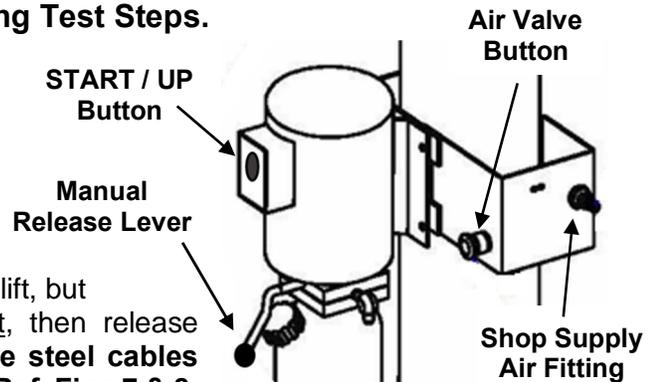

Fig. 30
- 1) **To Cycle Test Lift**, first turn on 220VAC electrical supply to Power unit and connect shop air to Quick Disconnect Air Fitting on Control Bracket. Ensure shop air supply to Air Fitting is between 90 - 115 PSI for proper Latch operation, Fig. 30.
- 3) **To Bleed Hydraulics**, cycle the lift \pm Up & Down fully 2 to 3 times to bleed (remove air) from the hydraulic system or until the lift lowers smoothly. **OPERATION NOTE:** To Lower Lift press the Manual Release Lever to release hydraulic pressure, while at the same time pressing the 'Red' Button on the Air Valve to release latches allowing lift to lower without engaging Latch Racks, Fig 30.